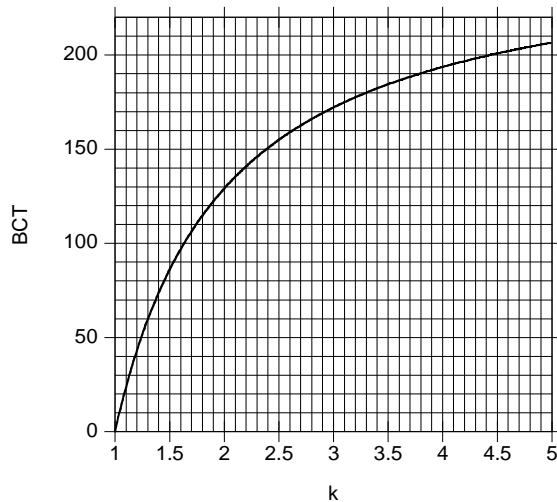

Figure 17: Relationship between the k Ratio and the Optimal BCT to Recover Linearity
Equation (6) is plotted in Figure 17 and Table 11.